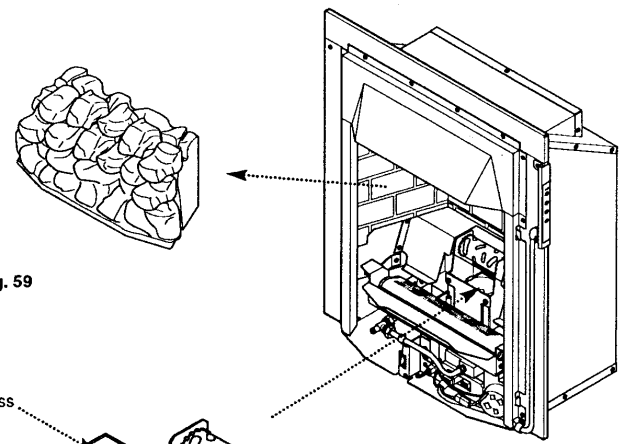

Fig. 59
1. Remove the coal bed (Fig. 59).